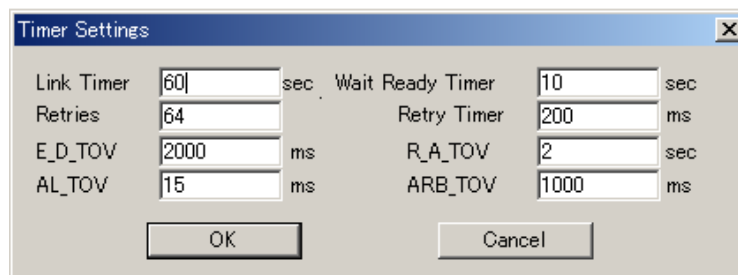

Figure 2.6 Timer Settings Panel
- b) For the SCSI Port Driver, the value of Link Timer is set to 60 as shown in Figure 2.6. (The default value is 30.)